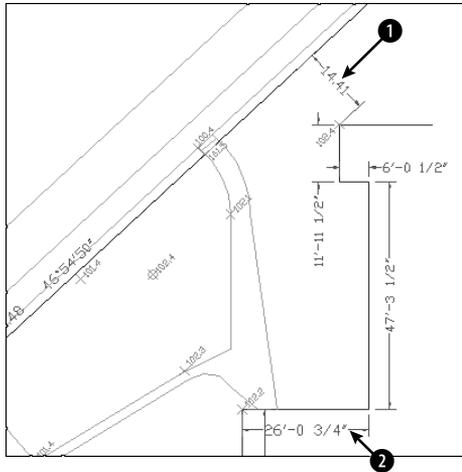

Figure 14-33: A dimensioned civil engineering drawing.
2. Save the file as `ab14-08.dwg` in your `AutoCAD Bible` folder. This is a civil engineering drawing whose dimensions need some editing (see Figure 14-33). If the Dimension toolbar isn't visible, right-click any toolbar and check `Dimension`.
3.  The dimension at ❶ in Figure 14-33 is not in the proper units because the text was entered explicitly as 14.41. To correct this error, choose `Dimension Edit` from the Dimension toolbar. At the `Enter type of dimension editing [Home/New/Rotate/Oblique] <Home>:` prompt, right-click and choose `New`. The `Multiline Text Editor` opens, showing the angle brackets. Because you want the original text, click `OK`. At the `Select objects:` prompt, pick ❶. Press `Enter` to end object selection. (You could correct several dimensions this way.) This action corrects the dimension, automatically creating the text in the current units.
4.  The dimension text at ❷ in Figure 14-33 is too close to the dimension line of the vertical dimension that crosses it. Choose `Dimension Text Edit` from the Dimension toolbar. At the `Select dimension:` prompt, pick ❷. At the `Specify new location for dimension text or [Left/Right/Center/Home/Angle]:` prompt, right-click and choose `Right`. This action moves the text to the right.